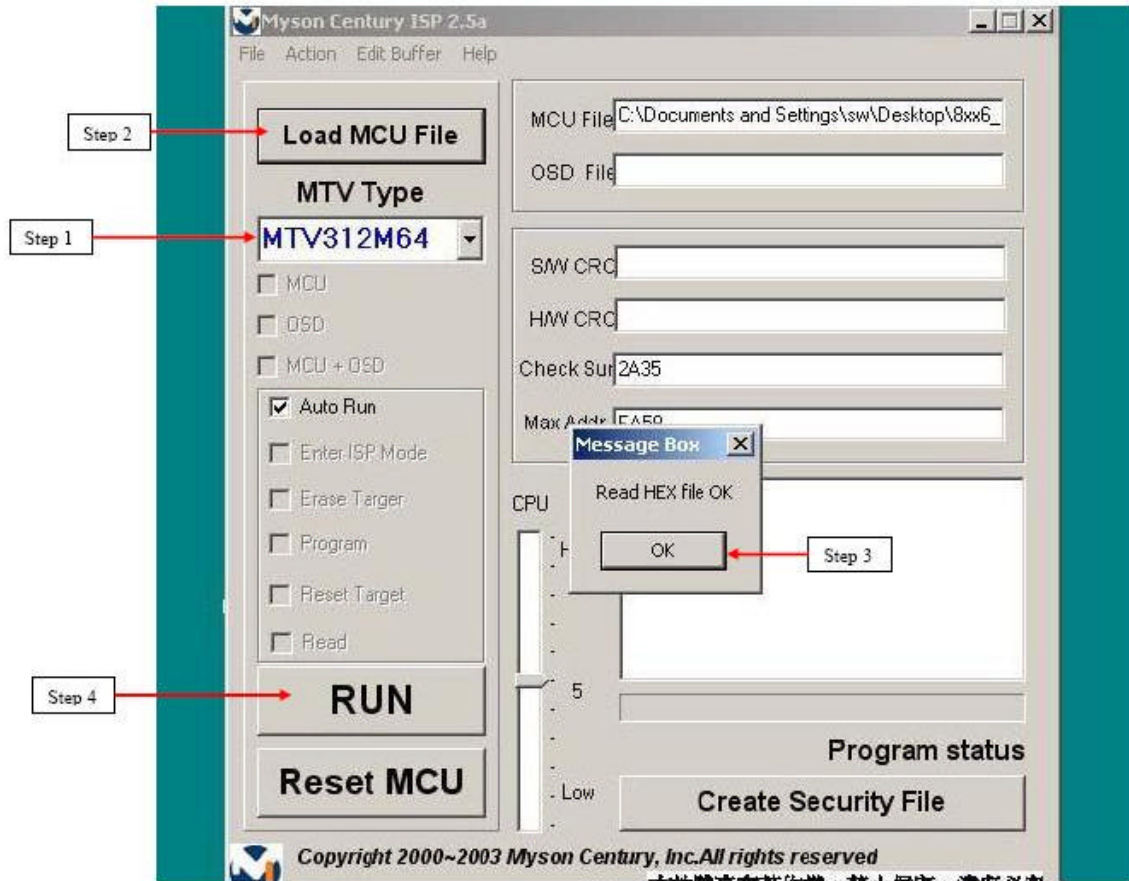

Fig. 3.1
3.1 Select MTV type first , load the binary or intel hex file that you want to program into the MCU , and select " AUTO" item , then press " RUN " button , see fig3.1